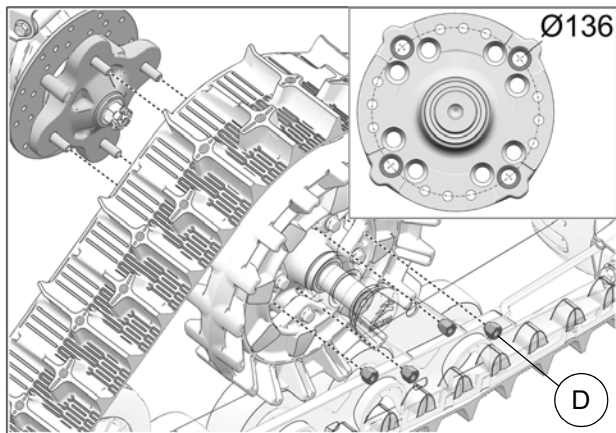

Fig. 20
8. Secure undercarriage to front hub using the provided M10 lug nuts (D). Use bolt circle Ø136 mm. See Fig. 20